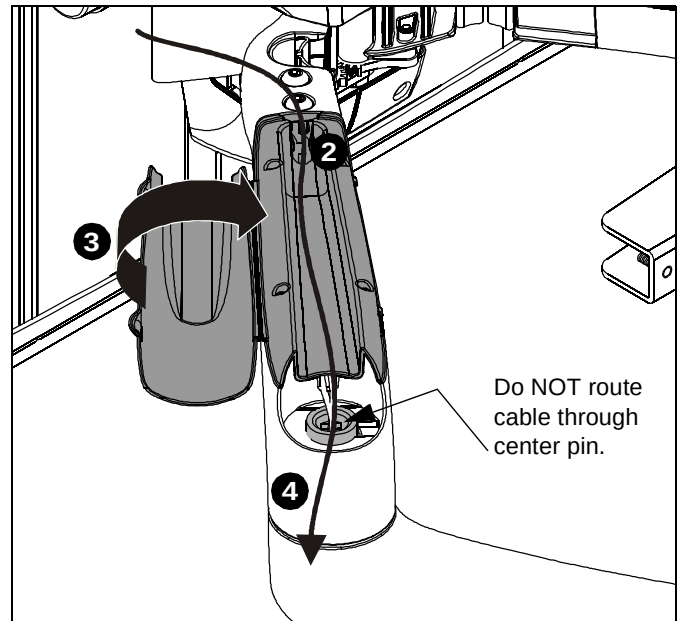

Figure 36
2. Extend cables from display and lay cables within top of arms. (See Figure 36)
3. Close cable management covers, being careful to not pinch cables under covers. (See Figure 36)
NOTE: Do NOT route cables through center pin. (See Figure 36)